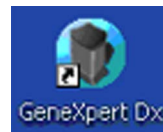

Figure 5-3. GeneXpert Dx System Shortcut Icon
1. On the Windows desktop, double-click the GeneXpert Dx icon. See Figure 5-3.